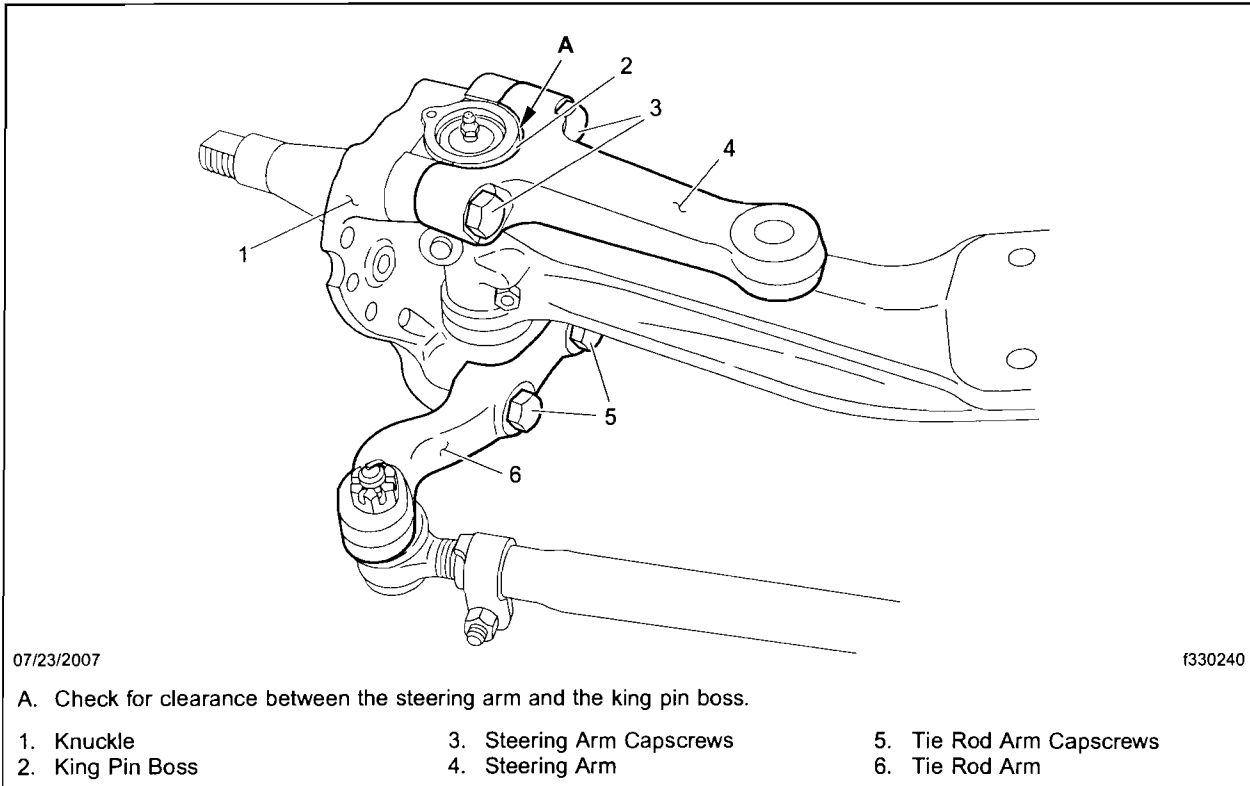

Fig. 1, Steering Arm and Tie Rod Arm
3. Using a 0.004 inch (0.1 mm) feeler gauge, check the clearance between the steering arm and the king pin boss. See **Fig. 1**.
1. Remove one of the capscrews that attaches the steering arm to the steering knuckle. See **Fig. 1**.
1. Remove one of the capscrews that attaches the tie rod arm to the knuckle. See **Fig. 1**.